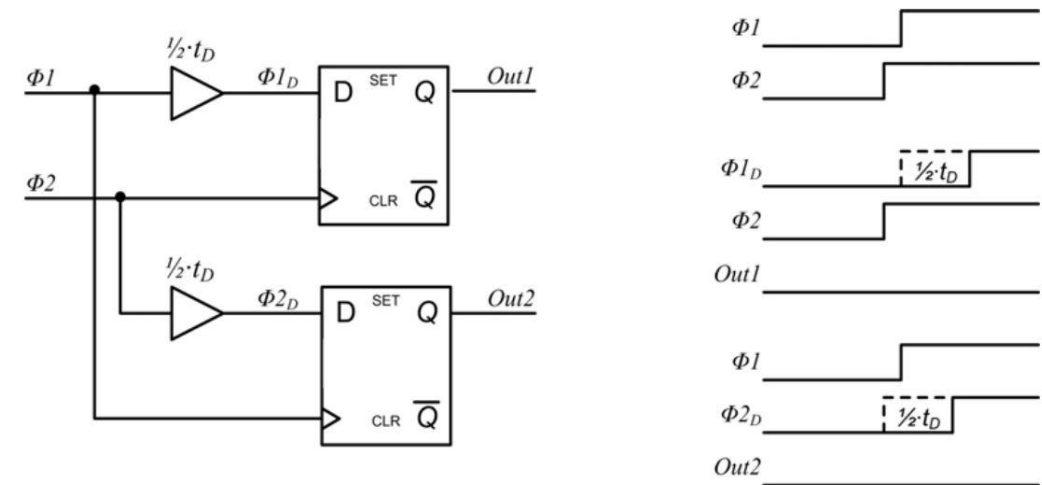

Figure 9: PD with hysteresis of $\frac{1}{2} * t_D$ [7]
- ❑ The PD topology shown in Figure 9 has the potential metastability that both Out1 and Out2 are high when phase difference is π .